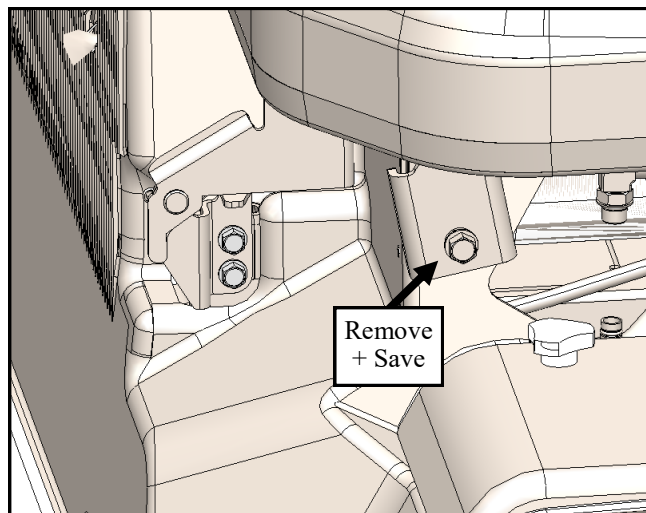

Fig. 3.1 (Remove OE Bolt)
- 3.1 Set the rear seat and seat back into the lower position. Remove and save the M10 pivot bolt. See Fig. 3.1.